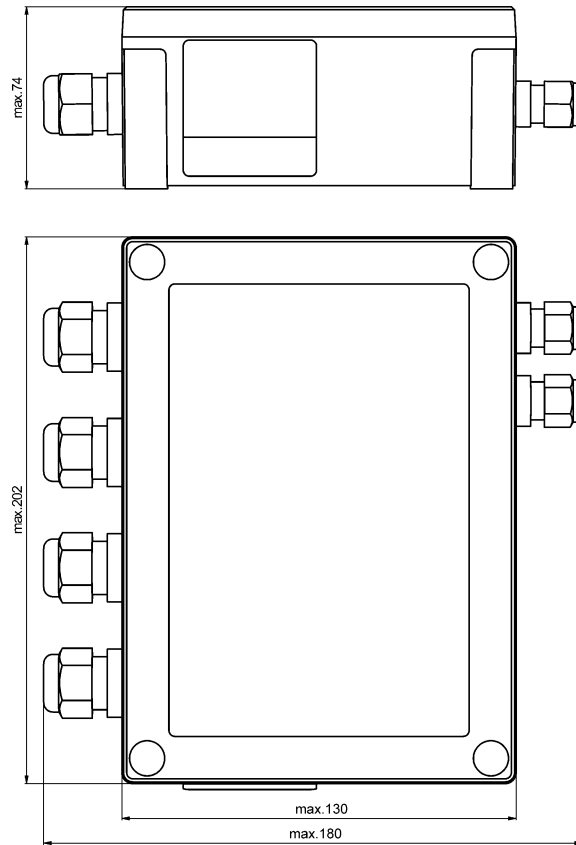

Figure 2 Dimensions of EKS-6004, EKS-6202, EKS-6400
- EKS-6004, EKS-6202, EKS-6400 **Figure 2**